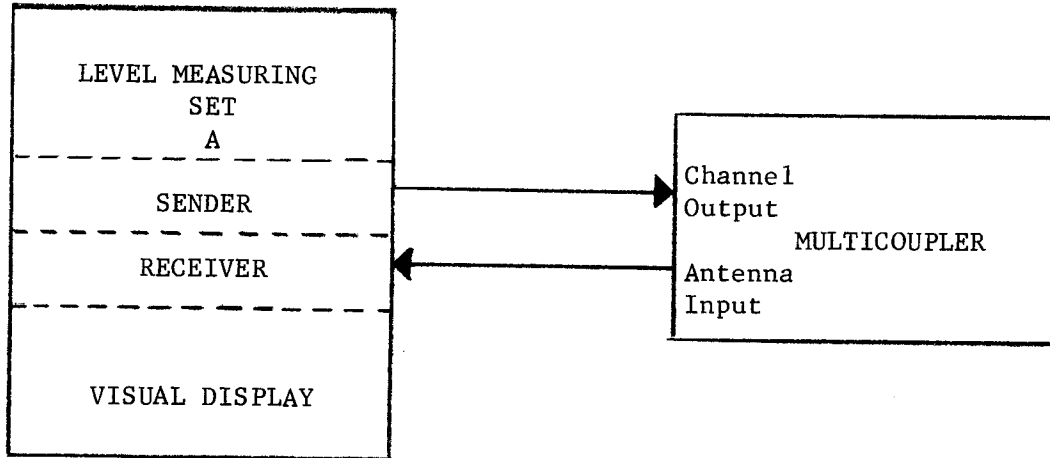

FIGURE 2.1A
1. Connect the equipment as indicated in Figure 2.1A.